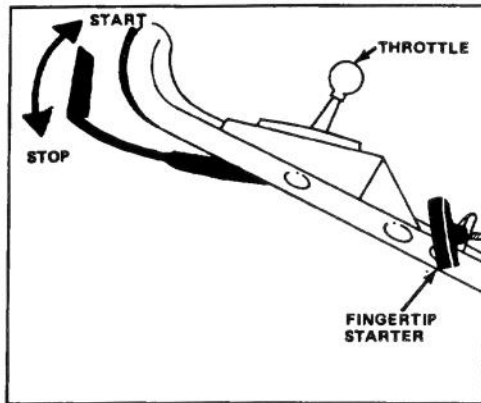
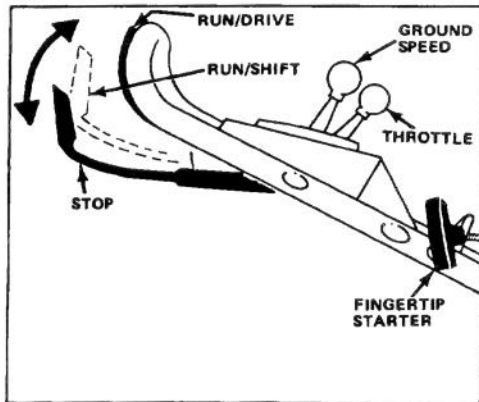
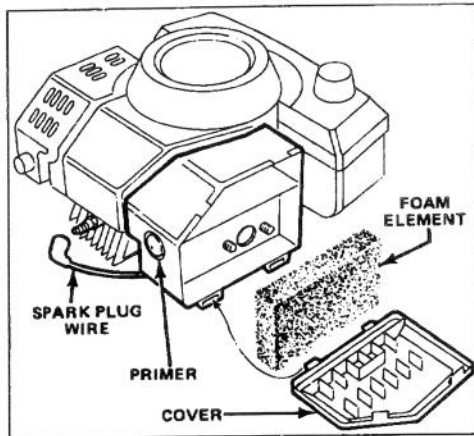

Figure 9
Figure 10
Figure 14
1. CONTROLS—Ground speed control (Model 20680 only), throttle, control bar and fingertip starter are on upper handle (Fig. 9 & 10).
3. STARTING (Model 20581)—Move throttle to CHOKE. Cover hole in center of primer with thumb and push once (Fig. 14). Hold control bar against handle. Pull fingertip starter and regulate throttle as desired when engine starts (Fig. 9).
4. STARTING (Model 20680)—Move ground speed control to "N" and throttle to CHOKE. Cover hole in center of primer with thumb and push once (Fig. 14). Lift control bar to RUN/DRIVE position and hold. Pull fingertip starter and regulate throttle as desired when engine starts (Fig. 10).
5. TRACTION OPERATION (Model 20680)—Allow control bar to move into the RUN/SHIFT position. Move ground speed control to desired setting and squeeze control bar against handle to drive. Ground speed varies, depending on space between control bar and handle. (Fig. 10).
2. Lift tabs at top of air cleaner cover and pivot cover down. Clean cover thoroughly (Fig. 14).
3. If outside of foam element is dirty, remove it from air cleaner body (Fig. 14). Clean thoroughly.